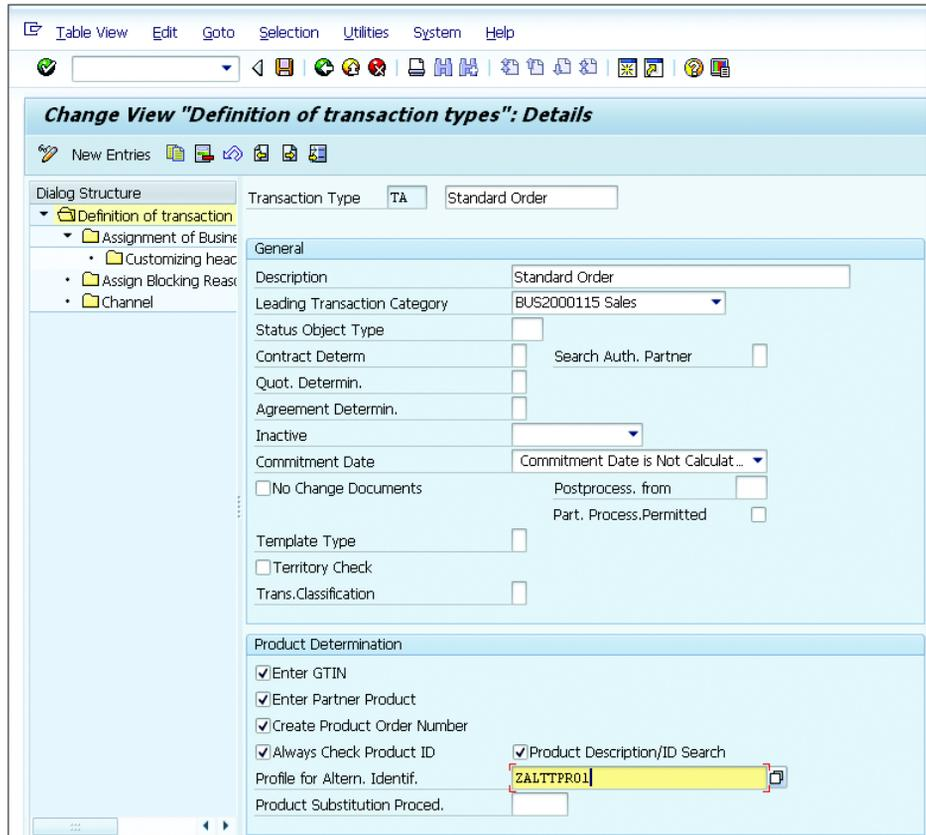

Figure 4.26 Assigning an Alternative ID Profile to the Transaction Type
7. Assign an alternative ID to the transaction type. When an alternative ID profile has been assigned to the relevant transaction type, alternative IDs can be used to search for products in the sales order. In Customizing for transaction types, choose CUSTOMER RELATIONSHIP MANAGEMENT • TRANSACTIONS • BASIC SETTINGS • DEFINE TRANSACTION TYPES (see Figure 4.26).
8. Under the PRODUCT DETERMINATION section in Figure 4.26, you'll find the following options: